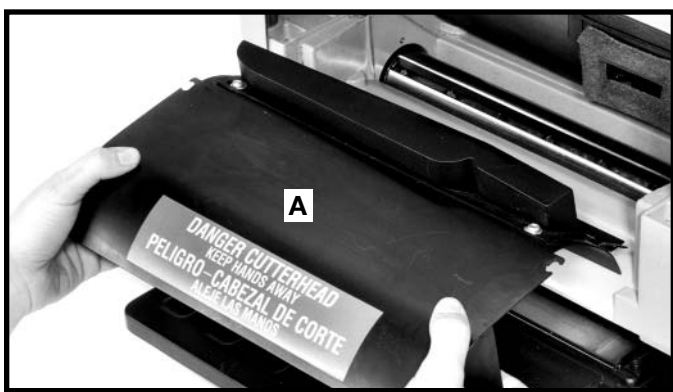

Fig. 19
2. Remove the chip deflector (A) Fig. 19.
8. Replace chip deflector (A) Fig. 19.
9. Replace chip deflector (A) Fig. 19.